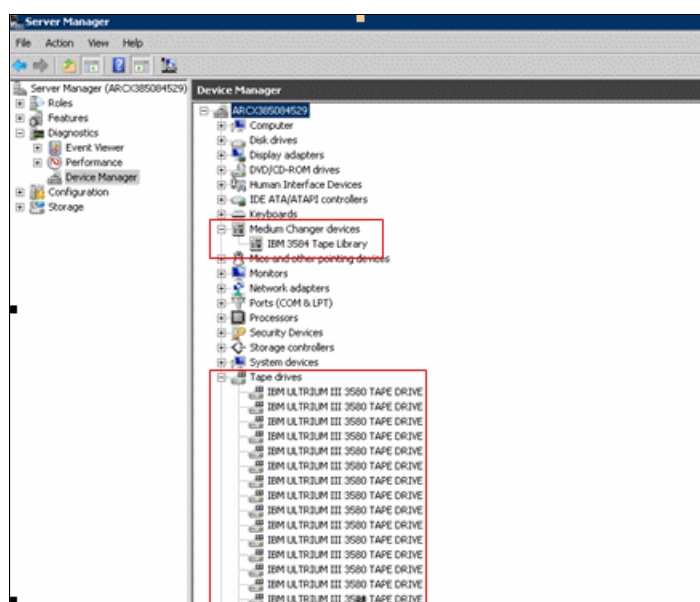

Figure 20-16 Server manager window - showing renamed changer and tape drive
3. After the installation is complete, the Windows Device Manager shows the tape changer as “IBM 3584 Tape Library”, and the tape drives as “IBM ULTRIUM III 3580 TAPE DRIVE” (Figure 20-16).